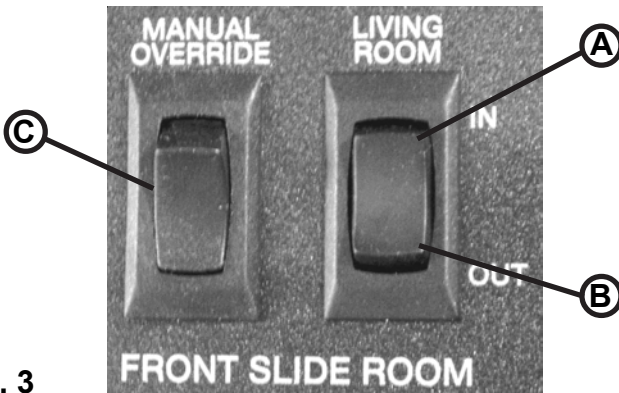

Fig. 3
4. Press and hold the IN/OUT switch (Fig. 3 (B)) in the OUT position until room is fully extended and stops moving.
2. Press and hold the IN/OUT switch (Fig. 3 (C)) in the IN position until the room is fully retracted and stops moving.